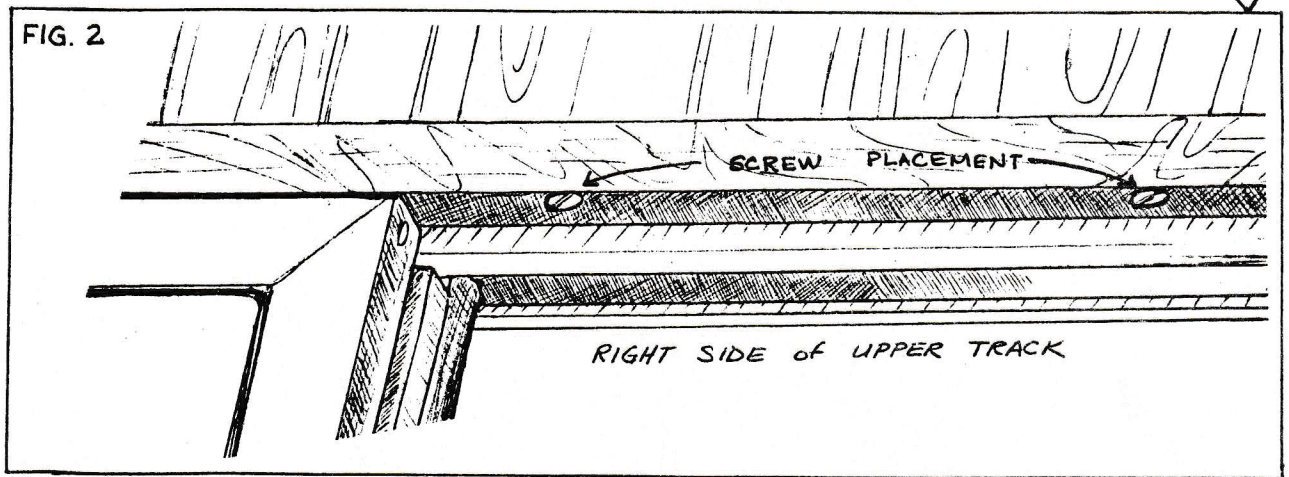

FIG. 3
- a. Installation requires drilling a 3/4 inch long slot approximately one inch from the top of the guard channel on the inner door. FIG. 3.
2. Problem: If the cord coils to the left, and has to cross over itself as the transport moves to the left, it is hung wrong and should be corrected. (FIG. 3)
To correct the cord positioning, run the transport up about one foot from the home position. Shut off the main power. Disconnect the cord at the top of the cabinet behind the round hole in the upper portion of the wood cabinet. (See FIG. 4) Remove the screw and cord clamp. If necessary, rotate the cord one or two turns in the direction that will remedy the problem in FIG. 3. Plug the cord back in and reclamp it in the position shown in FIG. 4: approximately 2 1/2 inches from the front of the cabinet reinforcing corner block and 2 3/4 inches from the top of the cabinet.